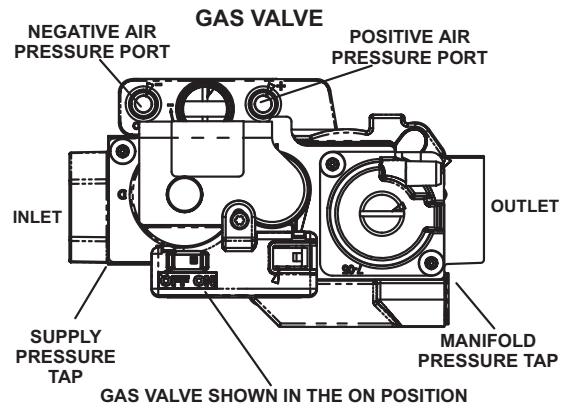

FIGURE 50
Gas Valve Operation (Figure 50)
- 6 - Move gas valve switch to OFF. See figure 50.
- 8 - Move gas valve switch to ON. See figure 50.